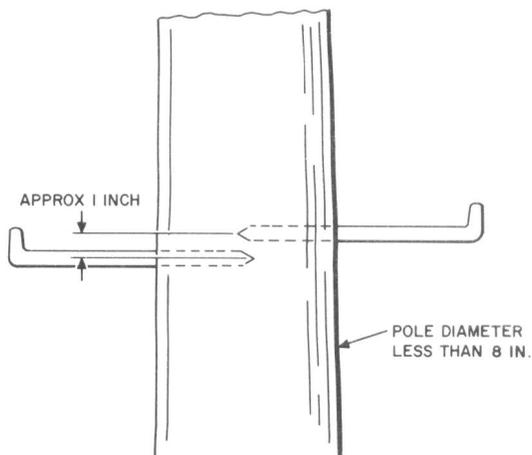

Fig. 3—Double Step in Small Diameter Pole
2.03 When stepping cedar poles, bore 3/8-inch lead holes 2 inches to 3 inches deep. For all other poles bore 1/2-inch lead holes 4 inches to 4-1/2 inches deep. Bore all holes horizontally toward the center of the pole. When boring holes for double steps at locations where the diameter of the poles is less than 8 inches, bore one of the holes about 1 inch below the hole on the opposite side of the pole (Fig. 3).